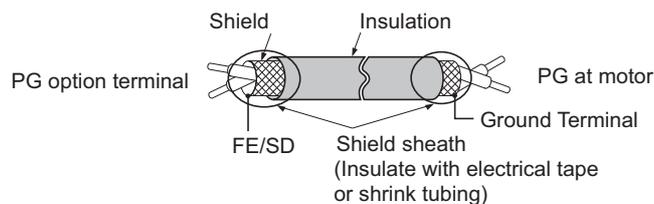
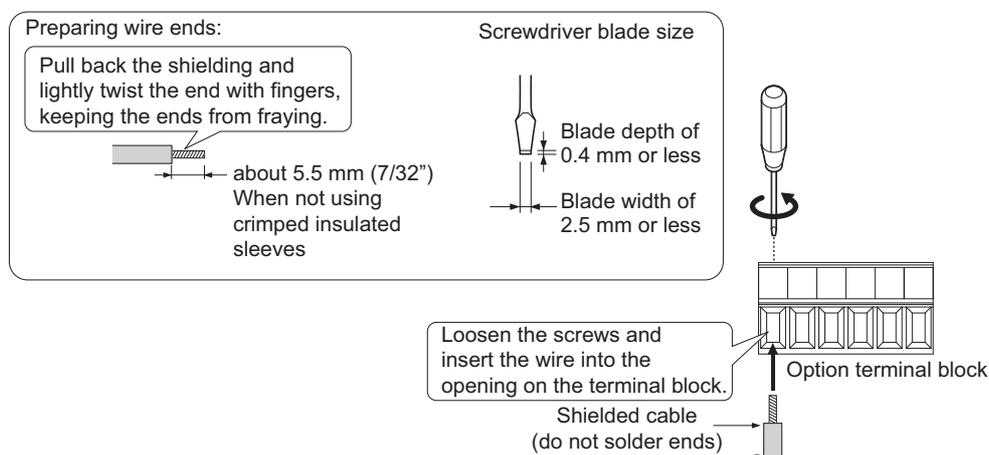

Figure 8.6 Preparing Ends of Shielded Cable
Figure 8.7 Preparing and Connecting Cable Wiring
- There are two screw holes on the drive for use as ground terminals (I). When connecting three options, two ground wires will need to share the same drive ground terminal.
- Prepare and connect the wire ends as shown in Figure 8.6 and Figure 8.7. Refer to Wire Gauges and Tightening Torques on page 424 to confirm that the proper tightening torque is applied to each terminal. Take particular precaution to ensure that each wire is properly connected and wire insulation is not accidentally pinched into electrical terminals.